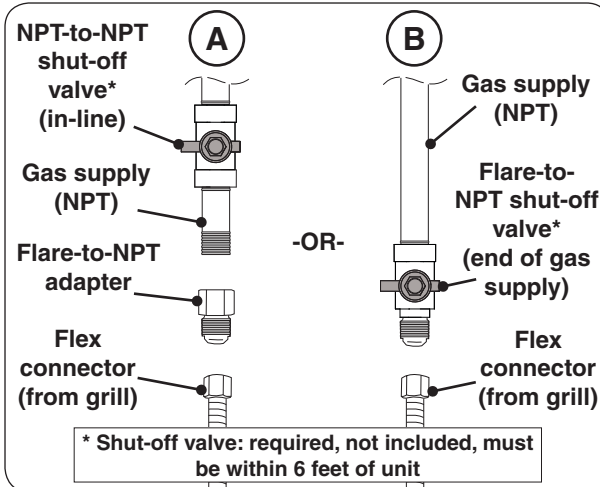

Fig. 18-3 Connecting to a gas line
- Install the supplied flare-to-NPT adapter to the gas supply (NPT) using a pipe joint compound resistant to all gasses (see Fig. 18-3, A). Tighten securely.
- Connect the flex connector to the adapter (see Fig. 18-3, A). Tighten securely.
- Connect the flex connector to the shut-off valve (flare) (see Fig. 18-3, B). Tighten securely.